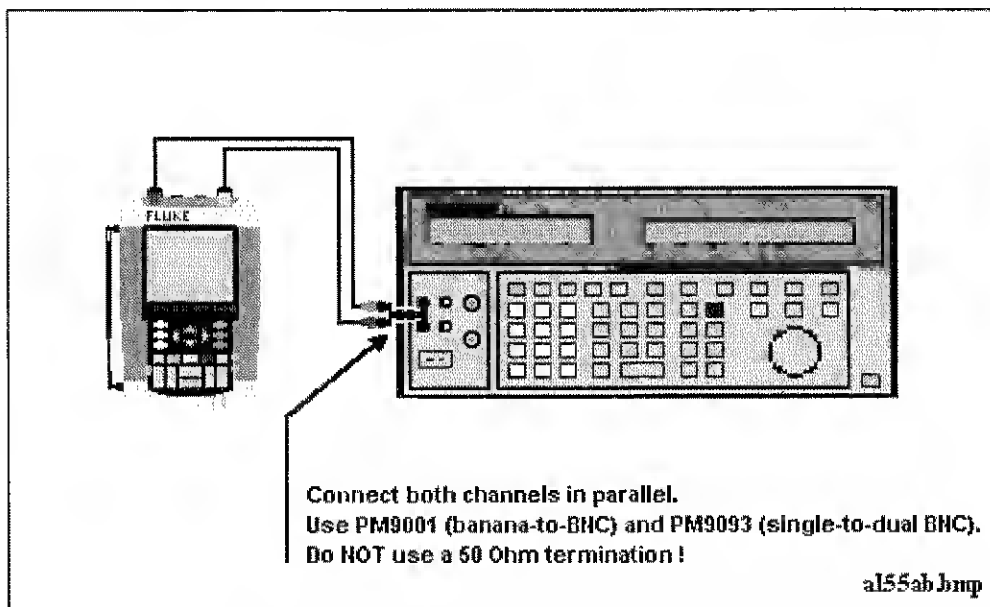

Figure 5-6. Test tool Input A&B to 5500 Normal Output
2. Connect the test tool to the 5500A as shown in Figure 5-6.